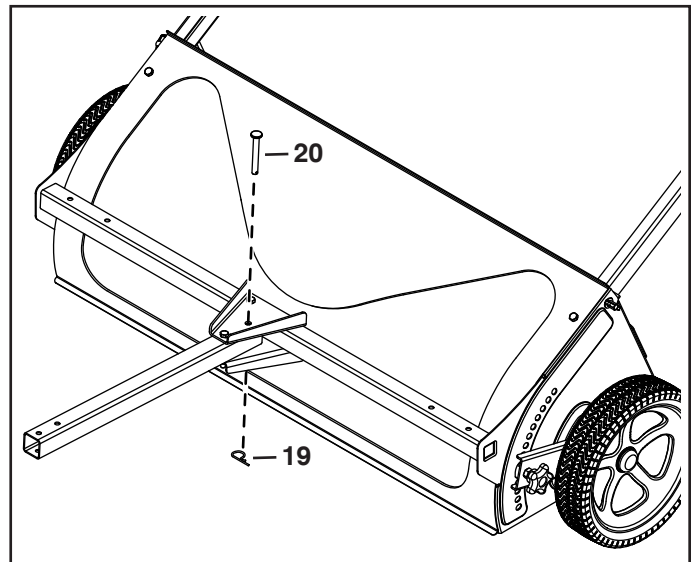

FIGURE 5
- Lock the drawbar into position by inserting a 3/8" x 3" hitch pin (20) into the center hole and securing it with a 3/32" cotter pin (19). See figure 5